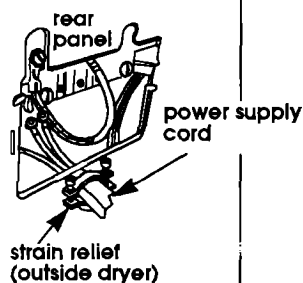

Figure 15
3. Attach 3/4" U.L.-listed strain relief (U.L. marking on strain relief) to the hole below terminal block opening (see Figure 15). Tighten strain relief firmly to cabinet so it is in a horizontal position. Place power supply cord through the strain relief.